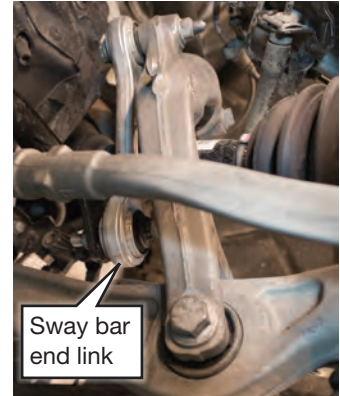

fig. D.4
6. Remove the sway bar end link from the fork mount (Fig. D.4).